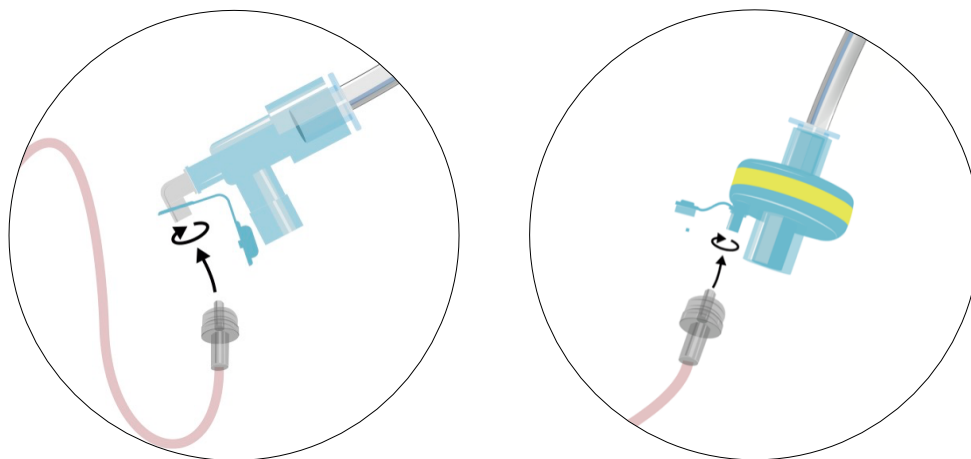

Figure 11: Patient connectivity, connecting Airway Tube
**Step 1:** Connect the Airway Tube (pink tube) connector to the standard luer lock gas outlet on the patient's connector or HME filter by twisting it on as shown in Figure 11.